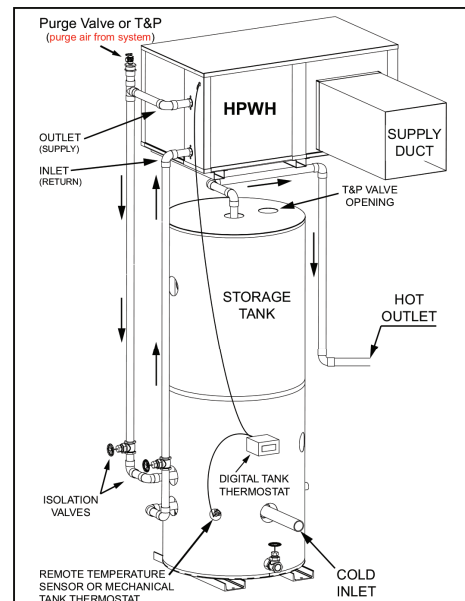
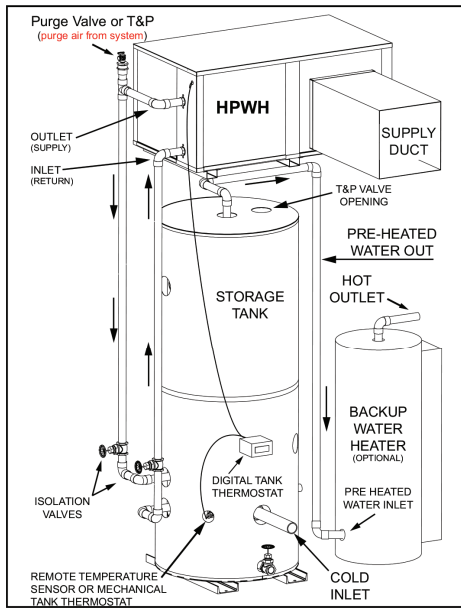

FIGURE 7
FIGURE 8
Water piping must be installed in accordance with the instructions in this manual and all local plumbing codes having jurisdiction. See Figure 7 and Figure 8 and the Piping Diagrams on page 28 as a reference for these instructions.
4. The cold water supply must be connected directly to the storage tank at a low connection port on the storage tank on single tank and two tank preheat piping configurations for optimal efficiency. See Figure 7 and Figure 8..
15. When the HPWH unit is installed above the storage tank install a Tee fitting at a high point in the outlet water line leaving the unit. Install a purge valve, or if required by local code, a T&P valve (temperature and pressure relief) in a branch of the Tee fitting that can be used to purge air from the HPWH unit during start up. See Figure 7 and Figure 8.
The HPWH must be plumbed to storage tank. The maximum stored water temperature the HPWH unit can produce in the storage tank is 150°F (66°C). Figure 7 shows a typical storage tank piping configuration. Tank ports must be large enough to handle the peak water flow rates through the water heating system. See Piping Diagrams on page 28 for detailed piping diagrams.
When water temperatures above 150°F (66°C) are required the HPWH and storage tank are piped in series (upstream) with a backup water heater. See Water Temperature on page 9. The backup water heater will raise the temperature of the preheated water to the final system temperature required. Figure 8 shows a typical preheat piping configuration.